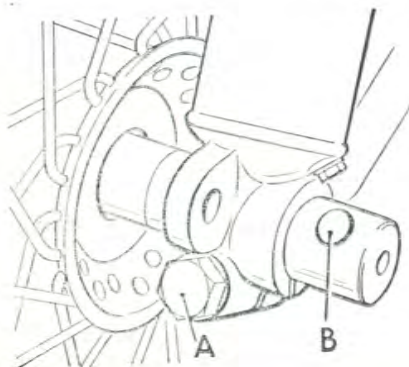
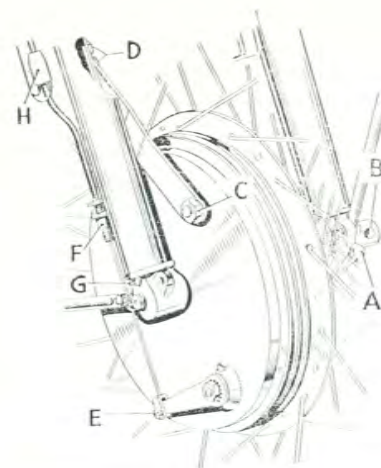

FIG. 24.
FIG. 25.
The cable adjuster is situated at the cable abutment (F) on the brake plate (Fig. 25). First slacken the ring locknut on the adjuster sleeve, make the required adjustment and retighten the ring nut against the face of the abutment. Additional finger adjustment is provided at the handlebar lever (Fig. 1).
To remove the front wheel first disconnect the brake cable by withdrawing it from the slotted clevis (E) Fig. 25, and then unscrewing it from the abutment (F). Remove the torque arm nut (C), slacken nuts (D), and release the pinch bolt (A) Fig. 24. Insert a stout tommybar through the hole (B) Fig. 24, at the head of the wheel spindle and unscrew it from the hub. Note that it has a left-hand thread and unscrews by turning in a clockwise direction. Support the wheel as the spindle is withdrawn, and when it is clear, the